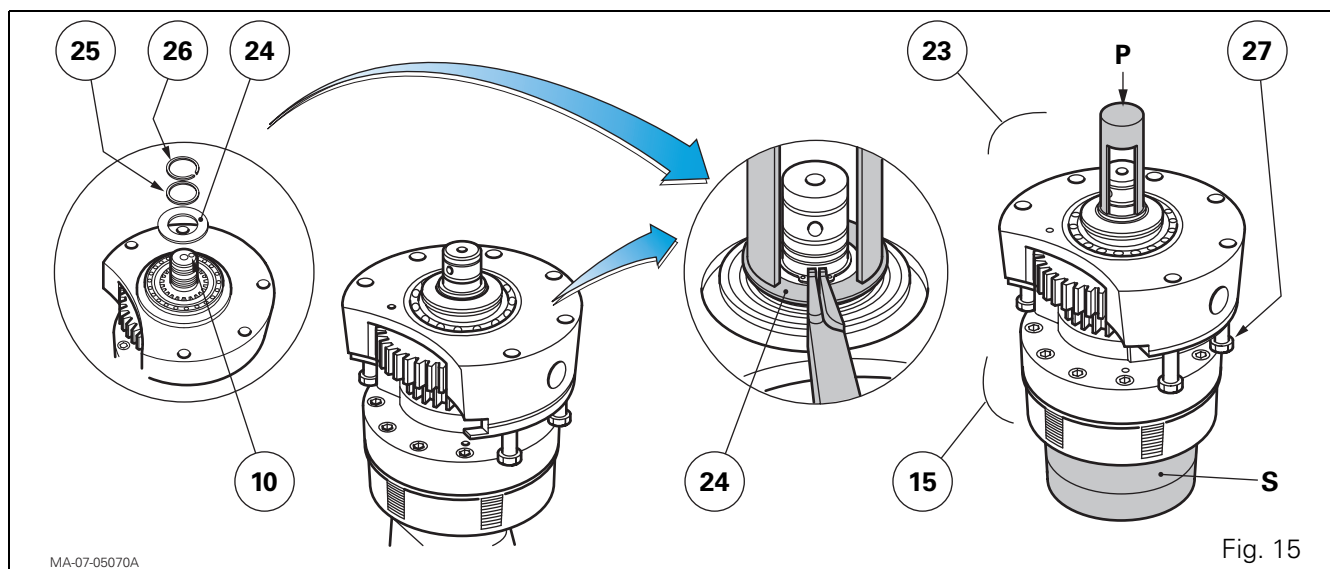

Fig. 15
Splitting the block consisting of the clutch unit (15) and unit/driving pinion(s) (23) assemblies (Fig. 15)
21. Using a press and the tool ref. 3378135M1 (Fig. 15 and § E), moderately compress the Belleville washer (24) to release the snap ring (26) of the countersunk washer (25).
22. Remove from the end of the sleeve (10):
- the snap ring (26);
- the countersunk washer (25);
- the Belleville washer (24).
26. Place the rebuilt block on the support S (Fig. 15), itself on a press table.
27. Refit on the end of the sleeve (10):
- a new Belleville washer (24), respecting the assembly direction;
- the countersunk washer (25), turning its recess towards the snap ring (26).
28. Using pliers, slightly increase the diameter of the snap ring (26). Place this snap ring temporarily on the sleeve (10).
29. Using a press, moderately compress the Belleville washer (24) to show a groove in which to fit the snap ring (26).